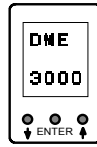

Fig. 1: Display of the DME 3000
On connecting the power supply voltage, the device shows the type designation in the display (Fig. 1).
- A selected parameter or a numerical entry is confirmed with the ENTER button (Fig. 1).
When in measuring mode, the parameter menu is accessed by pressing the ↑ / ↓ button. As protection against unintentional or unauthorized changes, a code number must first of all be entered with the ↑ / ↓ buttons and confirmed with the ENTER button (Fig. 1).